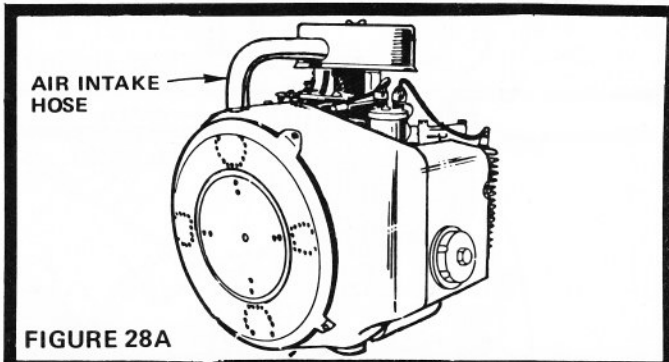

FIGURE 28A
- Remove Air Intake Hose that connects to Blower Housing (Fig. 28A). This provides an access to view Timing Mark.